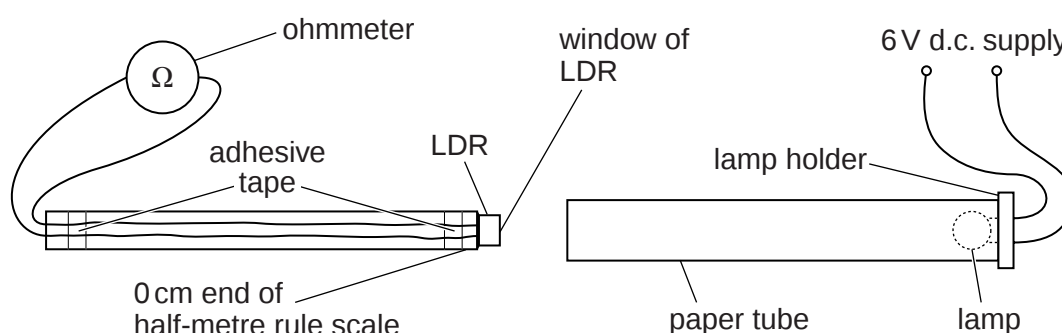

Fig. 1.1
- 4 Assemble the apparatus as shown in Fig. 1.1. The LDR should be fixed at the 0 cm end of one of the half-metre rules with its window facing away along the axis of the rule. If the half-metre rule has two scales, then the unused scale should be concealed.